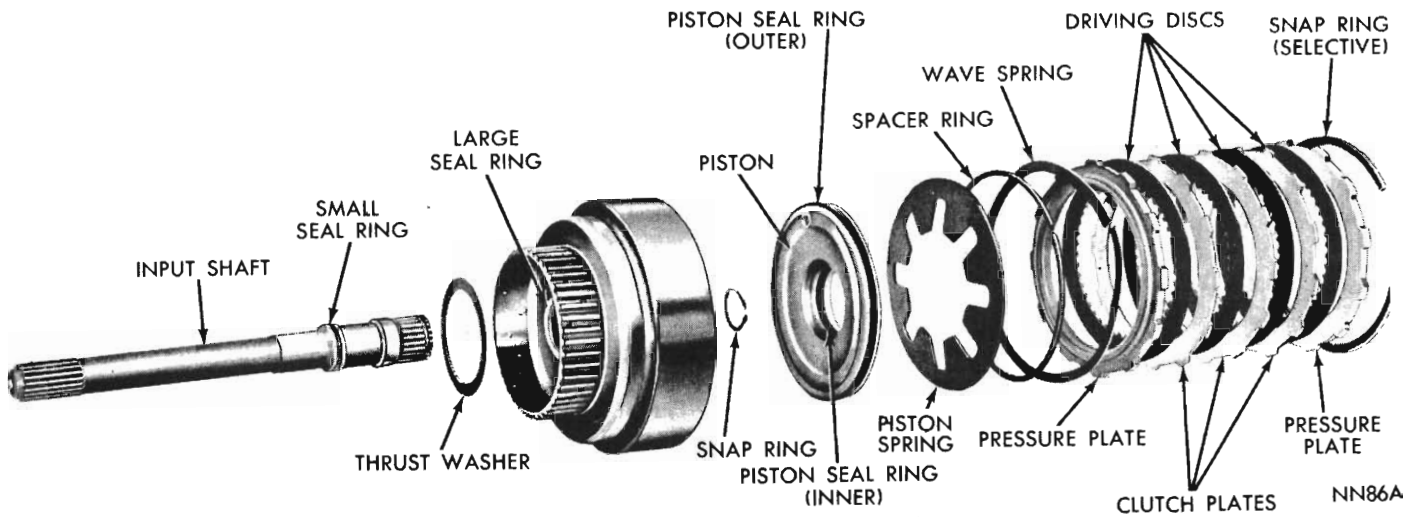
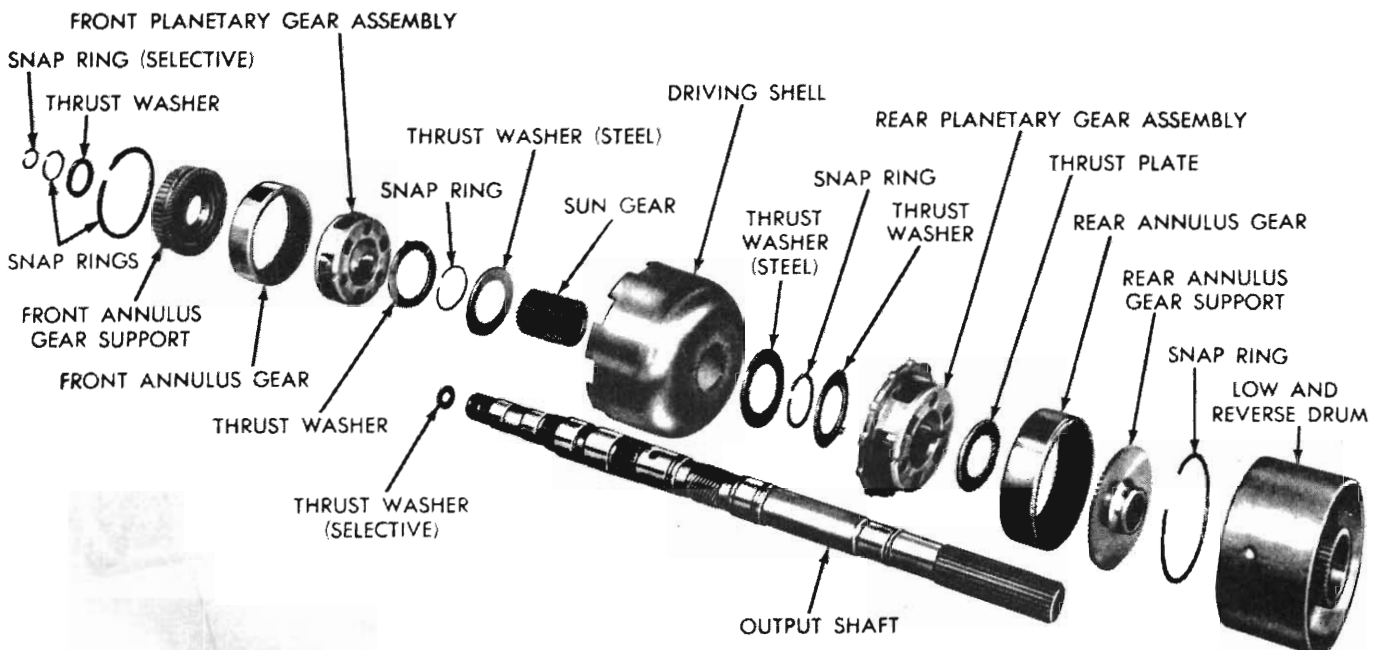

Fig. 78 - Rear clutch — disassembled
Fig. 84 - Planetary gear train and output shaft disassembled (A-904)
Fig. 78 shows a disassembled view of the rear clutch assembly.
Inspect interlocking seal rings (Fig. 78) on input shaft and piston retainer for wear or broken locks, make sure they turn freely in the grooves. Do not remove rings unless conditions warrant. Inspect rear clutch to front clutch thrust washer for wear. Washer thickness should be .043 to .045 inch, replace if necessary.
(1) If removed, press input shaft into piston retainer and install snap ring.
(2) Lubricate and install inner and outer seal rings on clutch piston. Make sure lip of seals face toward head of clutch retainer, and are properly seated in piston grooves (Fig. 78).
(3) Place piston assembly in retainer and, with a twisting motion, seat piston in bottom of retainer.
(4) Place clutch piston spring and spacer ring on top of piston in clutch retainer, make sure spring and spacer ring are positioned in the retainer recess. Start one end of wave spring in retainer groove (Fig. 84), then progressively push or tap spring into place making sure it is fully seated in the groove.
(5) Install inner pressure plate in clutch retainer with raised portion of plate resting on the spring.
(6) Lubricate all clutch plates, install one lined plate followed by a steel plate until all plates are
(1) Remove selective thrust washer from forward end of output shaft (Fig. 84).
(2) Remove selective snap ring from forward end of output shaft, then slide front planetary assembly off the shaft.
(3) Remove snap ring and thrust washer from forward hub of front planetary gear assembly, slide front annulus gear and support off planetary gear set (Fig. 84). Remove thrust washer from rear side of planetary gear set. If necessary, remove snap ring from front of annulus gear to separate support from annulus gear.
(4) Slide sun gear, driving shell and rear planetary assembly off the output shaft.
(5) Lift sun gear and driving shell off rear planetary assembly. Remove snap ring and steel washer from sun gear (rear side of driving shell).
Refer to *Fig. 84* for parts reference.